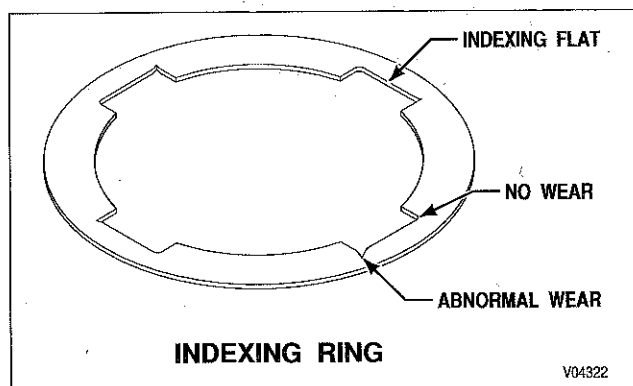
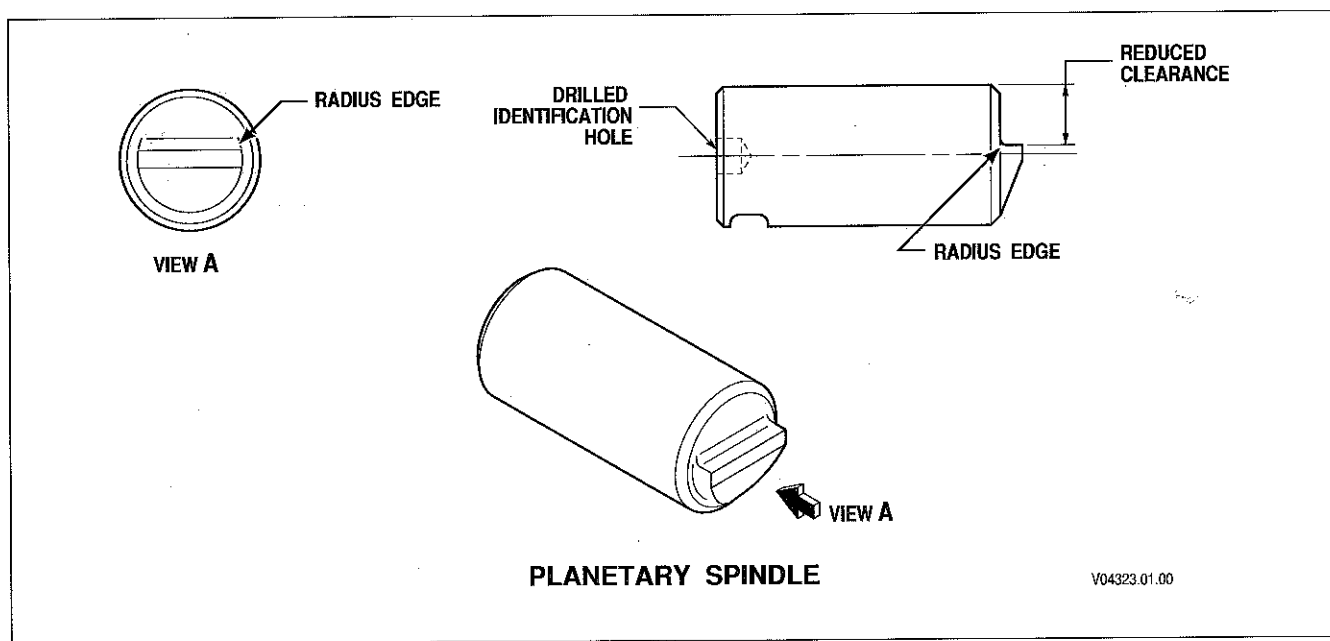

Figure 5-13. Carrier Indexing Ring Wear
Figure 5-14. Sharp Edge vs. Radius Edge On Planetary Spindles
4. Remove retaining ring 5 and indexing ring 6. Inspect indexing ring 6 for abnormal wear where the spindles 7 contact (Figure 5-13). If abnormal wear is present, the planetary spindle 7 probably has a sharp edge instead of a radius edge (Figure 5-14).
Planetary spindles on transmission S/Ns between 6510063169-6510114718 have sharp edges (Figure 5-14). If index ring 6 is worn and the spindles have a sharp edge and fall within the S/N range above, replace the spindles.
Transmissions built beginning September 13, 2000 contain improved planetary spindles (Figure 5-14, View A) designed to reduce wear on the spindles and the spindle retaining ring. The new design reduces the clearance between the spindle and the spindle retaining ring. The improved spindles can be identified by a shallow drilled hole in the end of the spindle. Former (Figure 5-14, View A, S/N 6510063169-6510114718) and current spindles (Figure 5-14, View A) are interchangeable. Refer to SIL 15-WT-01.
Be sure that the planetary spindles cannot rotate after the indexing ring has been installed or lube flow to the pinion bearings may be blocked. When the indexing ring slots are worn on one corner (Figure 5-13), flip the plate over to obtain a new unworn contact surface. If both contact areas are worn, replace the indexing ring.
5. Remove retaining ring 14. Remove indexing ring 13. Remove four pinion spindles 12 from P2 carrier 6. Inspect indexing ring 13 for abnormal wear where the spindles 12 contact (Figure 5-13). If abnormal wear is present, the planetary spindle 12 probably has a sharp edge instead of a radius edge (Figure 5-14).
Planetary spindles on transmission S/Ns from 6510063169–6510114718 have sharp edges (Figure 5-14). If the index ring is worn and the spindles have a sharp edge and fall within the S/N range above, replace the spindles.